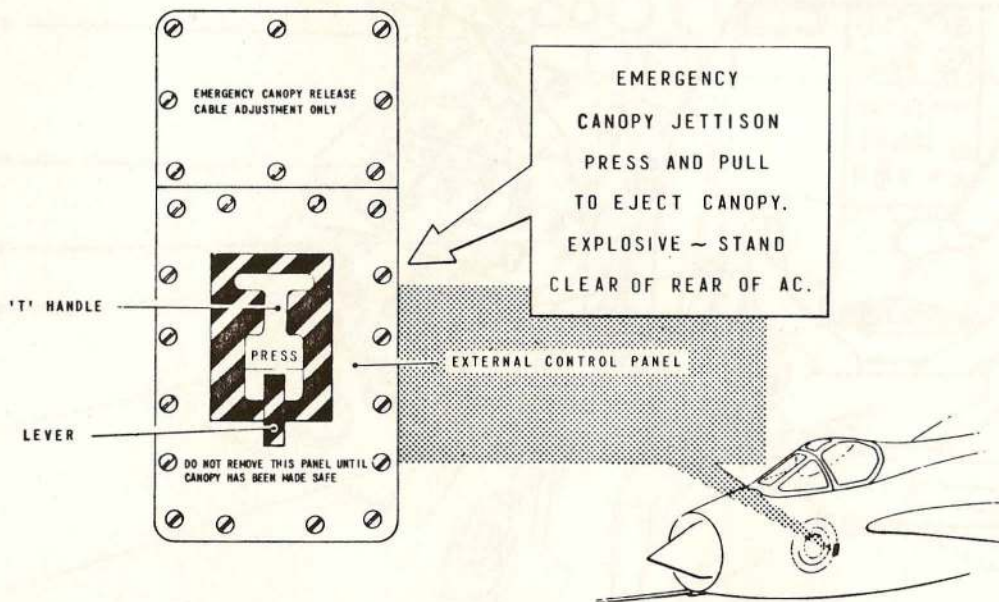

Fig.1. Canopy external jettisoning control
14. The canopy can be jettisoned without actuating the seat-ejecting mechanism by pulling either of two handles, one a spade-grip type mounted on the cockpit floor to the left of the pilot's seat and the other, a T-shaped handle connected to a lever on the external jettisoning control panel (*fig.1*). After depressing the section marked PRESS the external handle must be pulled outboard.